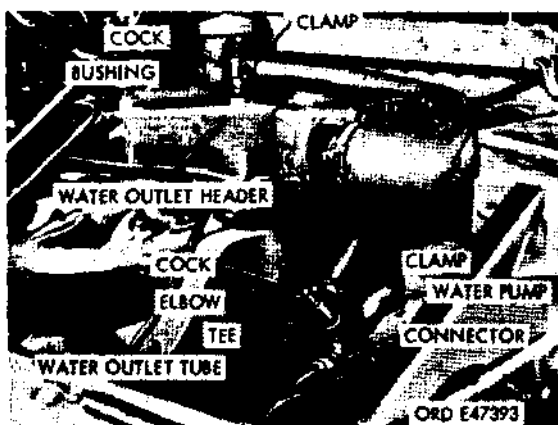
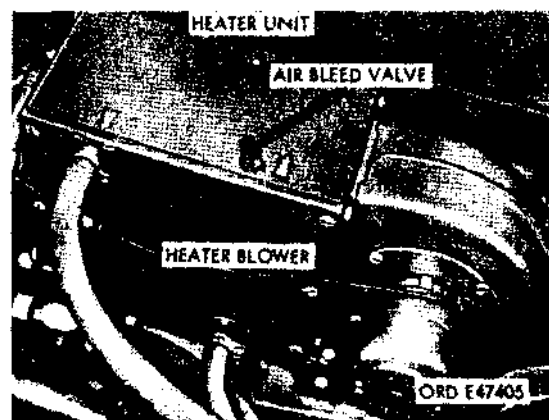

Figure 604. Heater hose connections
Figure 616. Heater assembly installed
- (10) Remove water outlet tube that connects air compressor and water pump (fig. 604). Remove connector from water pump. Coat the threads of tee, elbow, and cock with a suitable sealing compound and install them in the water pump as shown in figure 604. Coat connector with sealing compound and install in the
tee. Install new water outlet tube (fig. 604) between air compressor and water pump.
- (11) Remove plug from water outlet header. Coat bushing and cock (fig. 604) with
- (12) Cut both lengths of hose to 36 inches. Connect one hose to heater unit inlet and to cock on water outlet header (fig. 600). Secure hose with two clamps. Connect the remaining hose to the header outlet and to the cock located on the water pump (fig. 604) in the same manner.
- (1) Fill cooling system as detailed in TM 9-2320-211-10.
- (2) Connect battery cables.
- (3) Open cock on water outlet header and water pump (fig. 604). Operate engine until coolant reaches normal operating temperature. Open air bleed valve on heater unit (fig. 616) to expel all air from the cooling system. Close valve when a steady stream of water flows from valve.
- (4) Replenish coolant in cooling system.